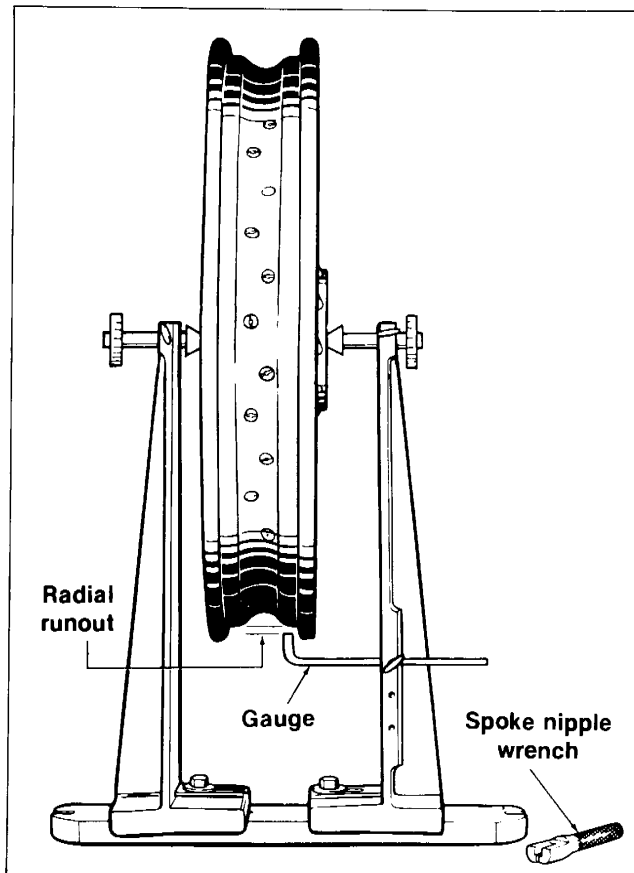

Figure 2-23. Truing Rim Radially
5. See Figure 2-23. After rim has been centered sideways it must be checked and trued radially. Adjust truing stand gauge to the rim's tire bead seat as shown. The rim should be trued within 1/32 in.